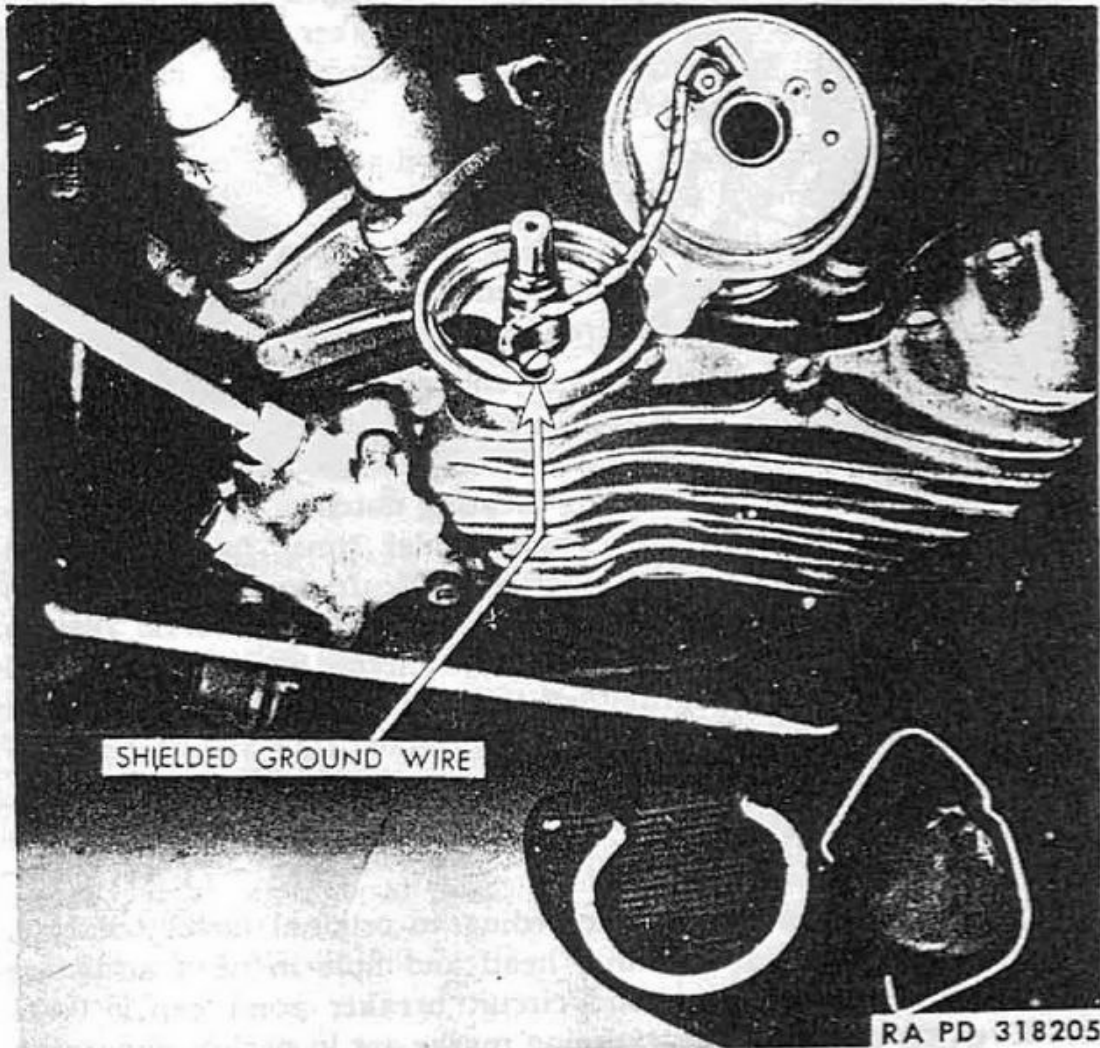
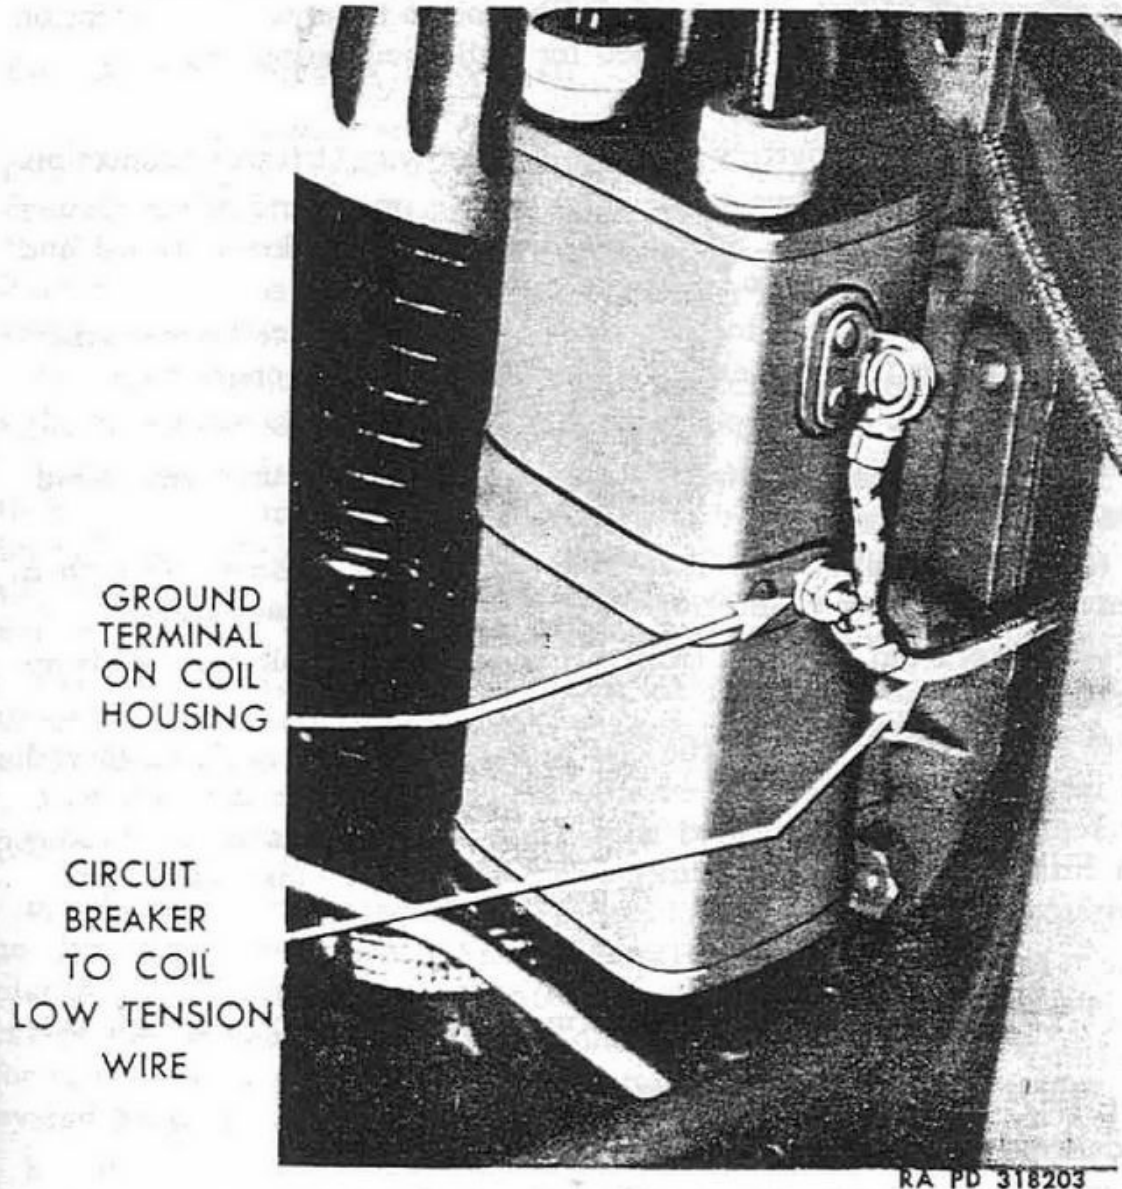

Figure 52—Shielding of Coil to Timer Wire Grounded on Base
Figure 53—Shielded Coil to Timer Wire Correctly Connected at Coil
(8) Fully advance spark lever (push inward toward engine) and observe how closely mark on breaker cam lines up with breaker lever fiber. If mark does not line up, lift timer base and turn shaft gear so its engagement with its driving gear is changed one tooth. Check again according to breaker cam mark and breaker lever fiber. Repeat this procedure until gear engagement is obtained which closely aligns cam mark and breaker lever fiber.
(9) See that timer base is turned so that timer to coil wire is toward rear of engine.
(10) Install timer base screws and lock washers. Make sure that timer to coil wire shielding is grounded under head of screw farthest away from engine (fig. 52). Securely tighten screws.
(11) Install timer head on base and secure with ground spring and cover retainer. Be sure ground spring is in its proper place so that when cover retainer ends are fitted through holes in the timer head, they will also fit into spring locating notches. It will be necessary to press ground spring upward under timer base to engage retainer ends in the spring notches. NOTE: *If cover retainer ends do not engage ground spring notches, spring will have no tension and timer head will be loose on its base.* Circuit breaker points and condenser are electrically grounded through timer base, and ground spring holds the head and base in close contact, thus assuring a good ground.
(12) Connect spark control wire and timer lever and adjust (par. 88).
(13) Engine is now timed according to original factory setting, providing mark on side of timer head and hole in head adjusting band are still in alignment, and circuit breaker point gap is 0.022 inch. Even though all ignition timing marks are in perfect alignment, as outlined in the foregoing instructions, it is advisable to accurately check ignition timing (step d following).
(8) With ignition timing correct, front cylinder piston is $\frac{9}{32}$ inch before top dead center, on compression stroke, when circuit breaker points just start to open. At this point spark occurs, igniting front cylinder fuel charge.
(9) Install flywheel inspection hole plug in left crankcase.
87. COIL TO TIMER WIRE (figs. 52 and 53).
(1) Disconnect battery negative ground wire at frame connection.
(2) Remove the two bolts which secure upper end of air cleaner bracket to frame tube. Swing air cleaner and bracket outward and forward to gain access to spark coil rear terminal.
(3) Disconnect coil to timer wire terminal from coil rear connection. Disconnect wire shielding from coil rear ground connection.
(4) Refer to paragraph 86 b (1) to (4) for timer head removal.
(5) Remove timer base mounting screw which secures wire shielding (fig. 52).
(6) Note position of coil to timer wire inside of timer head; then remove nut washer connecting wire to insulated contact stud.
(7) Work old wire and loom out of timer head hole and free from vehicle.
(8) On earlier models, the coil to timer wire was soldered to end of insulated stud. Removal of stud is necessary to remove this wire, or replace it with a shielded wire. Note location of stud insulations on inside and outside of timer head, for correct installation with reassembling.
(1) Pass end of wire, shield terminal, and loom up through hole in timer base.
(2) Ground the wire shield terminal under head of timer base mounting screw (fig. 52).
(3) Connect wire end terminal to insulated stud so that wire leads away from stud in direction shown (fig. 52).
(4) Pass coil to timer wire up alongside and to rear of frame saddle post tube to reach rear of spark coil.
(5) Ground the wire shield terminal to coil rear ground connection (fig. 53).
(6) Connect wire terminal to coil rear primary connection (fig. 53).
(5) Swing air cleaner and bracket assembly outward to gain access to coil rear terminals.
(6) Disconnect coil to timer wire from coil rear terminal screw. Disconnect wire shielding from coil rear ground terminal (fig. 53).